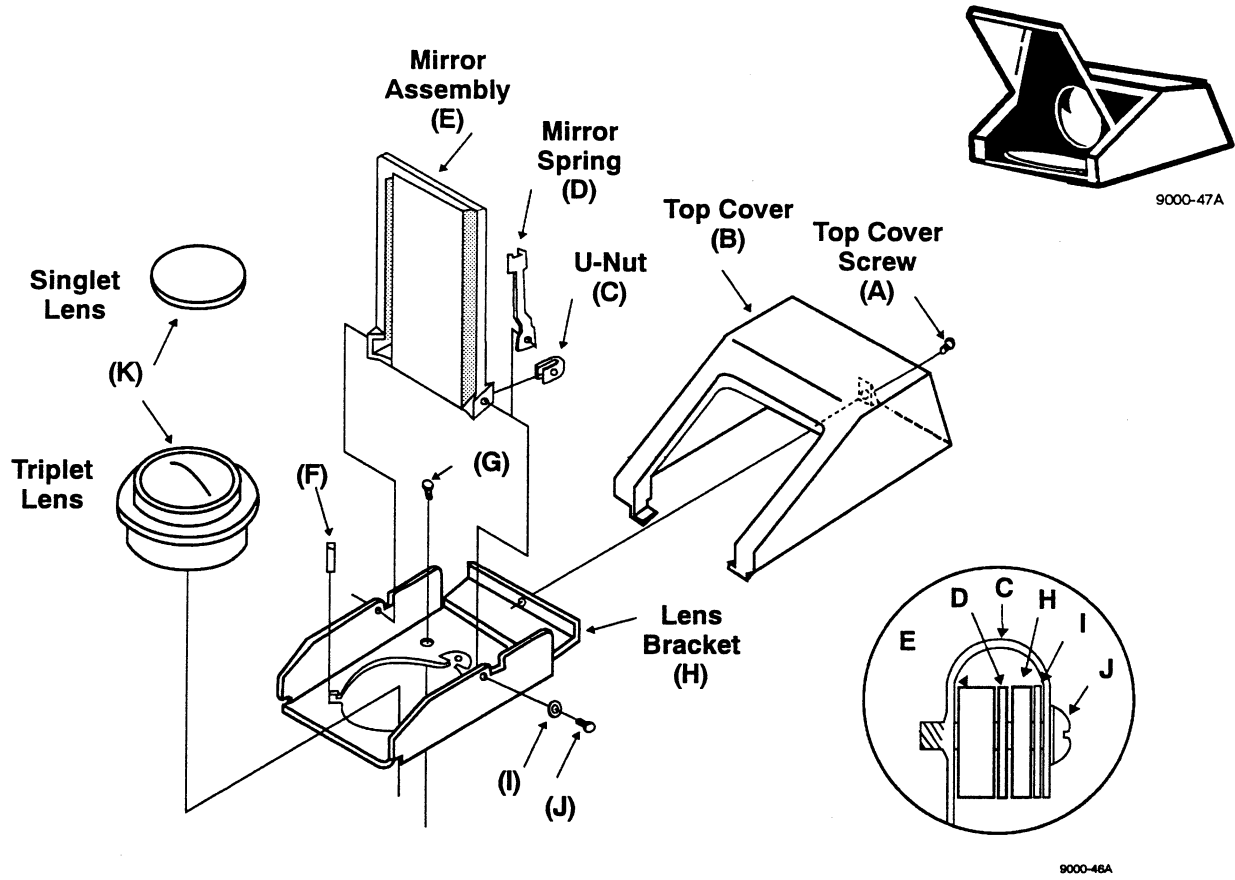

Figure 5-5. Open Projection Head—Exploded View
1. Remove screw (A) from top cover (B) rear. Figure 5-5.
2. Remove screw (J) on the side of lens bracket (H).
The lens tubing (F) on each retainer tab should be replaced if it is damaged or missing. Figure 5-5.